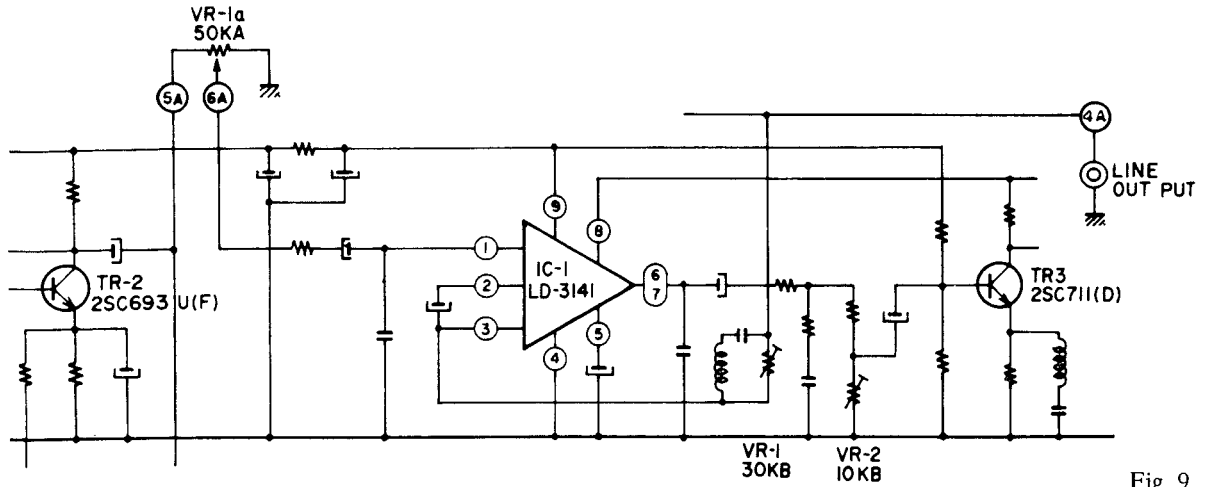

Fig. 9
3. ADJUSTMENT OF PLAYBACK LEVEL (See Fig. 9)
4. ADJUSTMENT OF RECORDING AND PLAYBACK LEVEL (See Fig. 9)